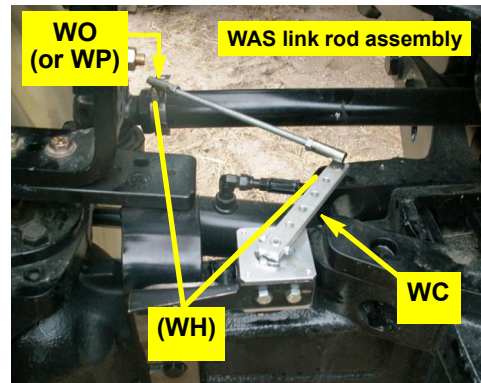

Figure 2d: Link rod assembly installed
- d. Using the remaining hardware **WH** (not visible) install the assembled WAS linkage from step 1 between the forward flange of clamp **WO** (or **WP**) and the last hole in connector arm **WC**. Install the linkage with the swivel studs downward at both ends (Figure 2d). Leave the swivel nuts **WH** loose.